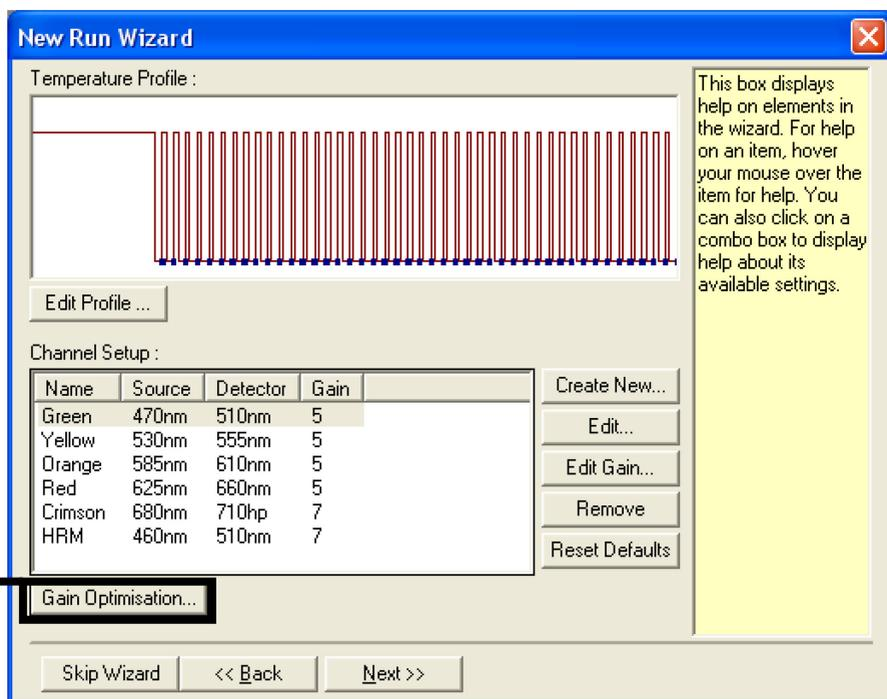

Figure 18. "Gain Optimization."
12. In the next dialog box, click "Gain Optimization" (Figure 18).